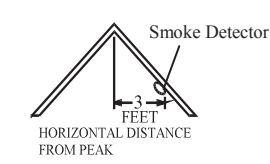

Figure 5:
- If some of your rooms have sloped, peaked, or gabled ceilings, try to mount detectors 3 feet (0.9 meter) measured horizontally from the highest point of the ceiling as shown in Figure 5.